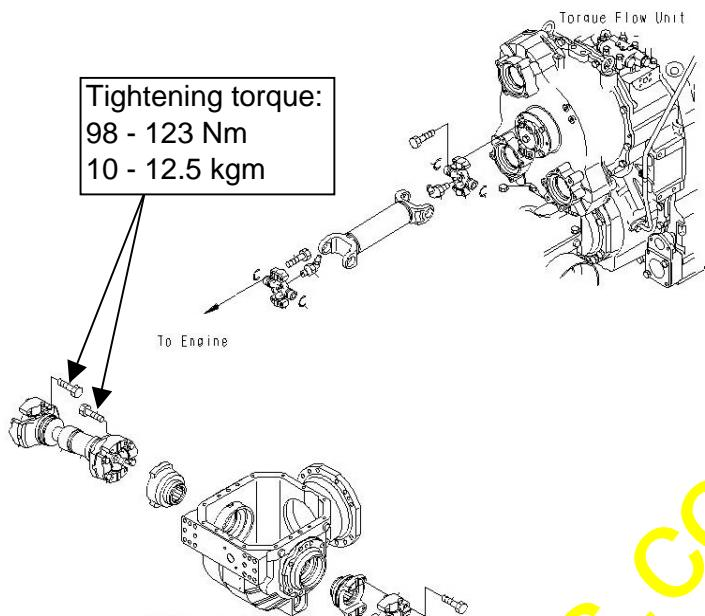

Fig. 11
- 6) Install the drive shaft. (Refer to Fig. 11.)